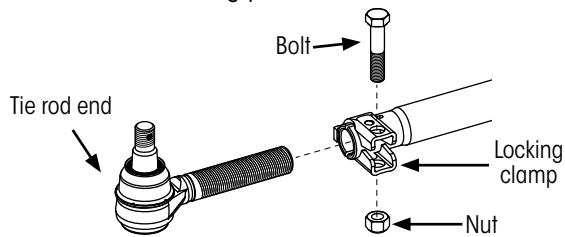

Figure 13: Tie rod end disassembly
3. **Loosen** tie rod end locking clamp (Figure 13). It should not be necessary to remove tie rod end clamp hardware.
3. **Install** washer and tie rod end castle nut onto tie rod end(s) (Figure 13).